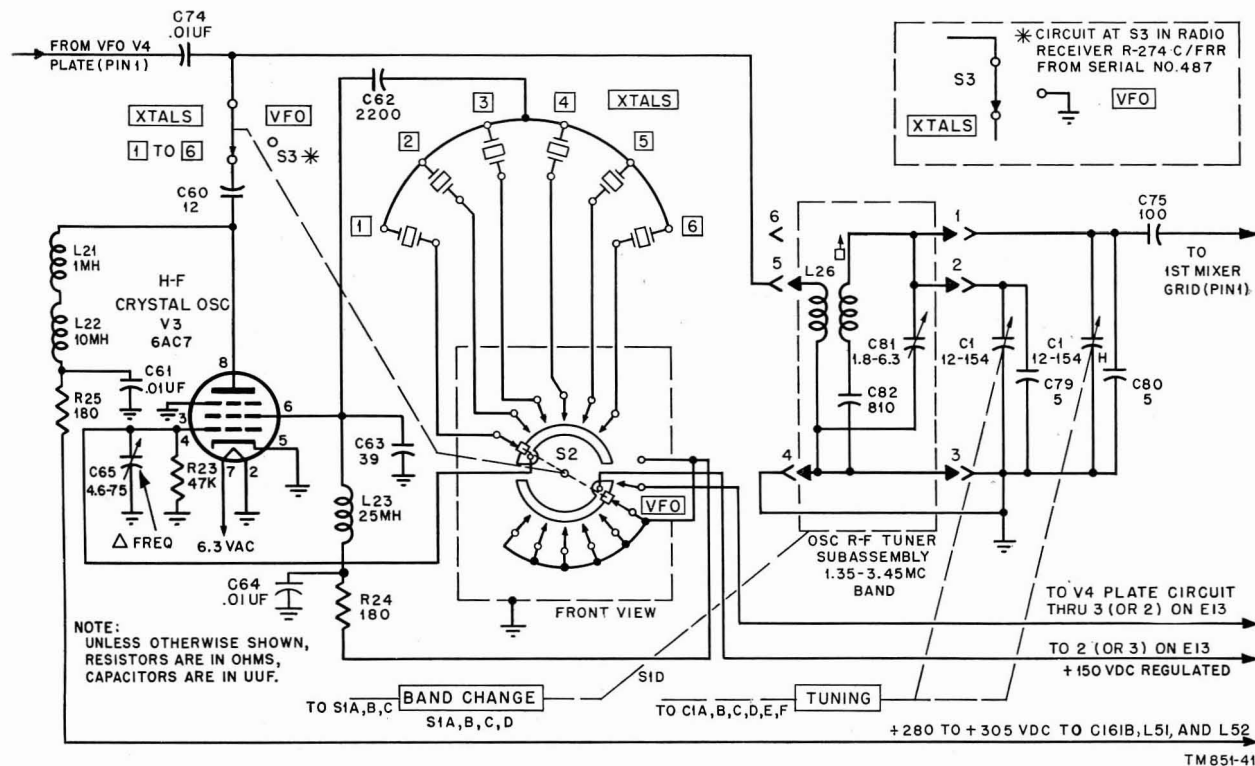

Figure 27. Radio Receivers R-274A/FRR and R-274C/FRR, schematic diagram of h-f crystal oscillator shown for band 2 (1.35 to 3.45 mc).
(fig. 27)
c. The h-f crystal oscillator uses an electron-coupled Pierce-type circuit. The Pierce oscillator is the equivalent of the Colpitts-type oscillator. Figure 27 shows that the oscillatory circuit elements of V3 are the screen grid, control grid, and cathode forming a triode oscillator with the screen grid acting as a plate. The oscillations developed at the plate element (screen grid) of V3 are coupled back to the grid circuit through the grid to oscillator plate capacitance in parallel with the capacitance of the crystal holder and C62. Coupling to the plate of V3 is through the electron stream with the suppressor acting to prevent secondary emission from the plate. Harmonic output is possible because the plate current is in the form of pulses of high harmonic content. The oscillations developed at the plate are coupled through capacitor C60 and the closed position of S3 to the primary of L26. Output load impedances L26 through L29 may be tuned to the fundamental or up to the third harmonic frequency of any crystal unit used.